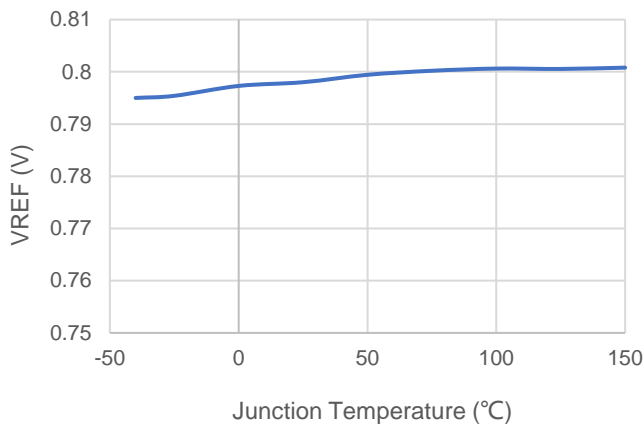

Figure 9 VREF Vs. Temperature
The GBI1430/1432 output voltage can be easily set up using a resistor divider network R1 and R2 as shown in the typical application circuit Figure 9. Use Equation (6) to calculate the resistor divider values.